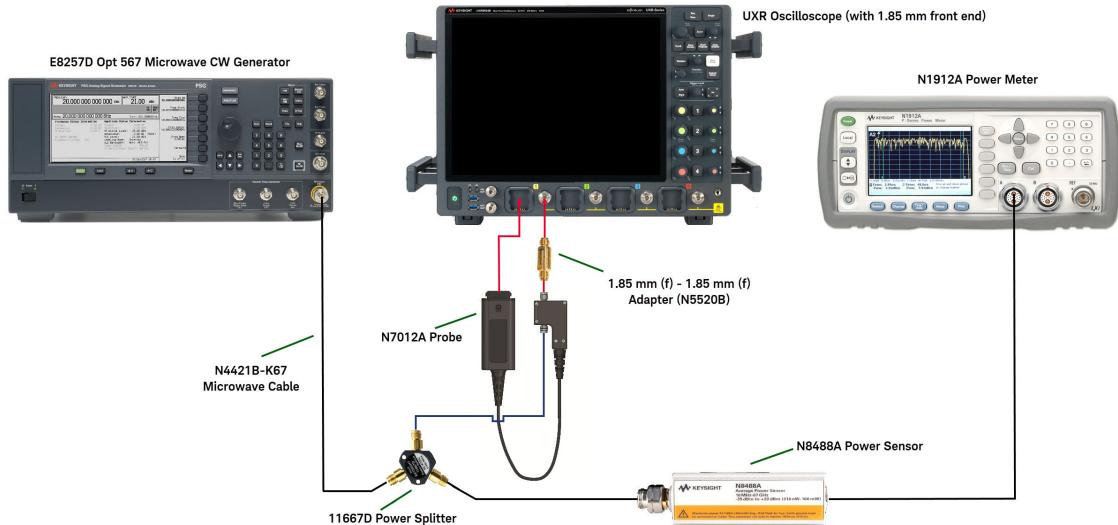
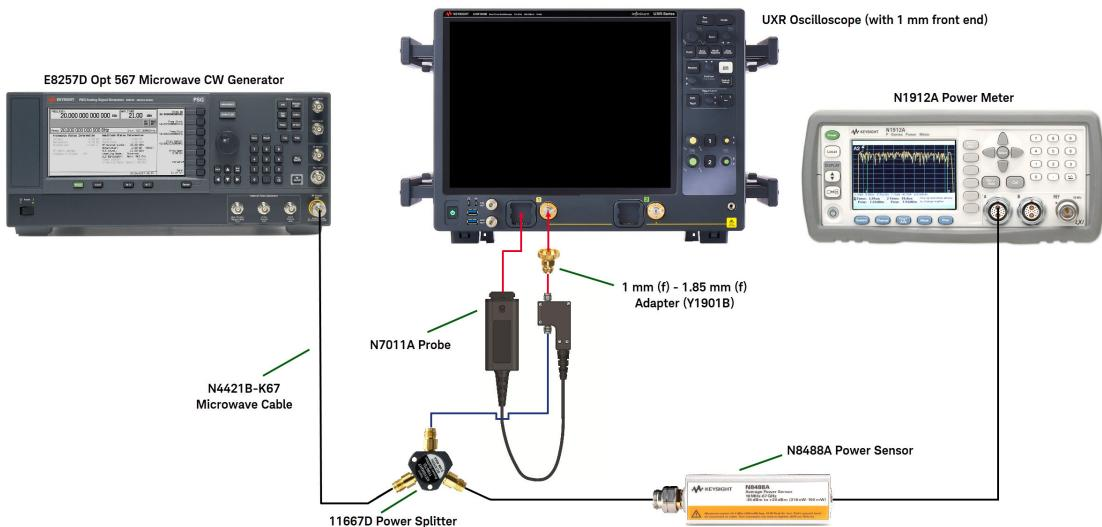

Figure 8 Test setup for Bandwidth Verification tests - setup1
Figure 9 Test setup for Bandwidth Verification tests - setup2
- 5 Connect the test setup as shown in Figure 8 and Figure 9. Do not use any additional cabling or adapters.